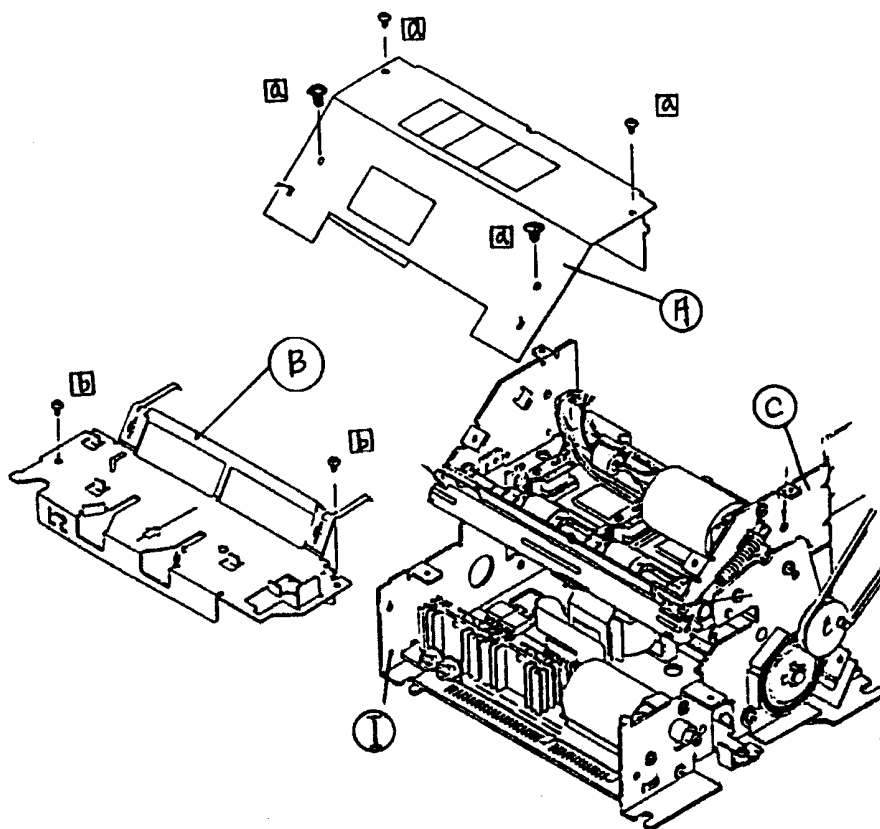

Fig 4-1 Disassembling the Printer
- 1) Remove the four screws [a] on the upper frame assy (C) and disassemble cover (A) (see Fig. 4-1).
- 2) Remove the screws [b] (two) and disassemble the Ribbon Frame (B) from the Lower Frame Assembly (I) as Fig. 4-1 Printer Disassembling.